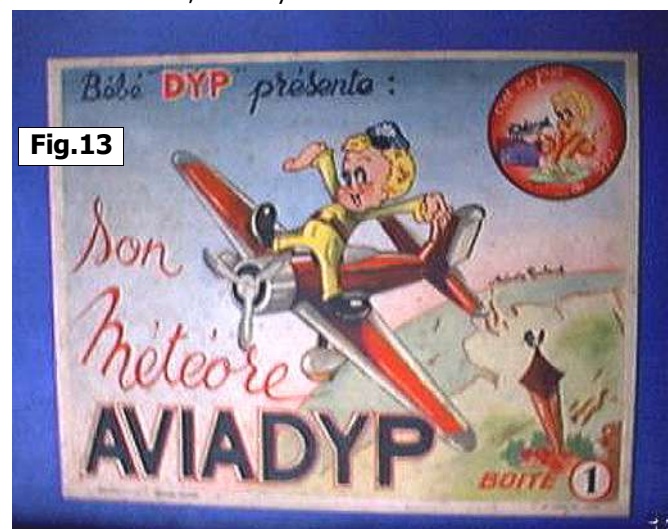

Fig.13
**No.1 Set [Av1-2]** (Fig 13) Like most sets from all periods this Ebay set has a blue box, and again like most, there are 2 layers of parts. The lid label below shows one model from the 6 on the No.2 lid, the only one that can be made with the No.1
**No.1 Set [Av2-1]** (Fig 20) The Ebay photos show a 2-layer set in a blue box with a label identical to the No.1 of Phase 1 (Fig 13). Unusually the parts in it are all silver. Fig 20 shows a